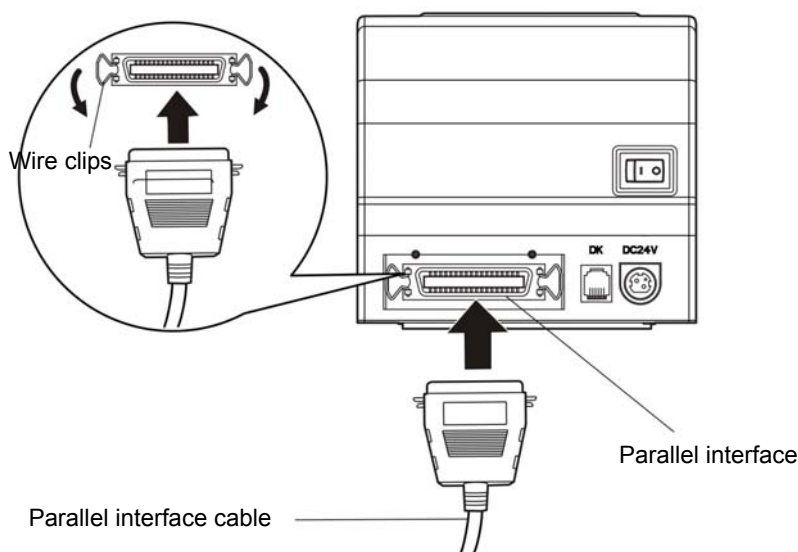

Figure 2-3 Connecting the parallel interface cable
1. Make sure the computer and the printer are both turned off, plug the parallel cable to the parallel interface of the printer, Squeeze the wire clips on both sides and make the cable fixed. As shown in Figure 2-3.